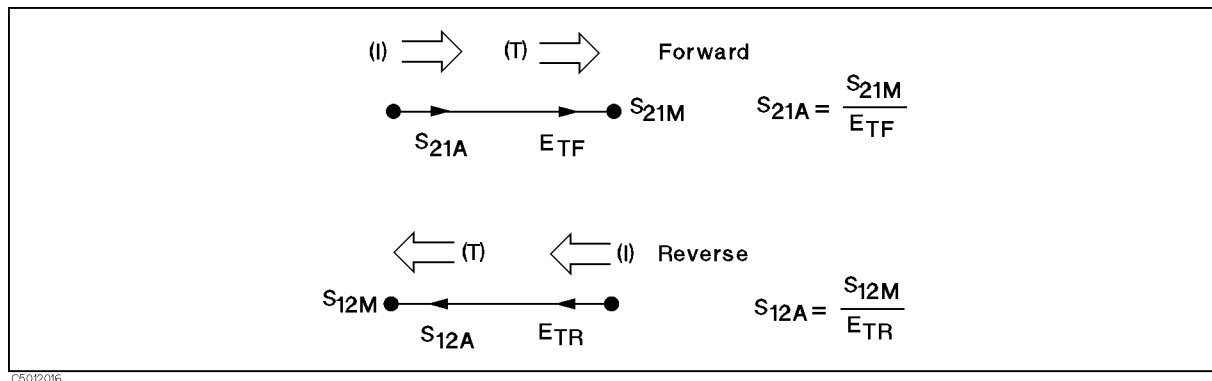

Figure A-37. Transmission Coefficient
Measuring Transmission Coefficient. The transmission coefficient is measured by taking the ratio of the incident signal (I) and the transmitted signal (T) (Figure A-37). Ideally, (I) consists only of power delivered by the source, and (T) consists only of power emerging at the test device output.